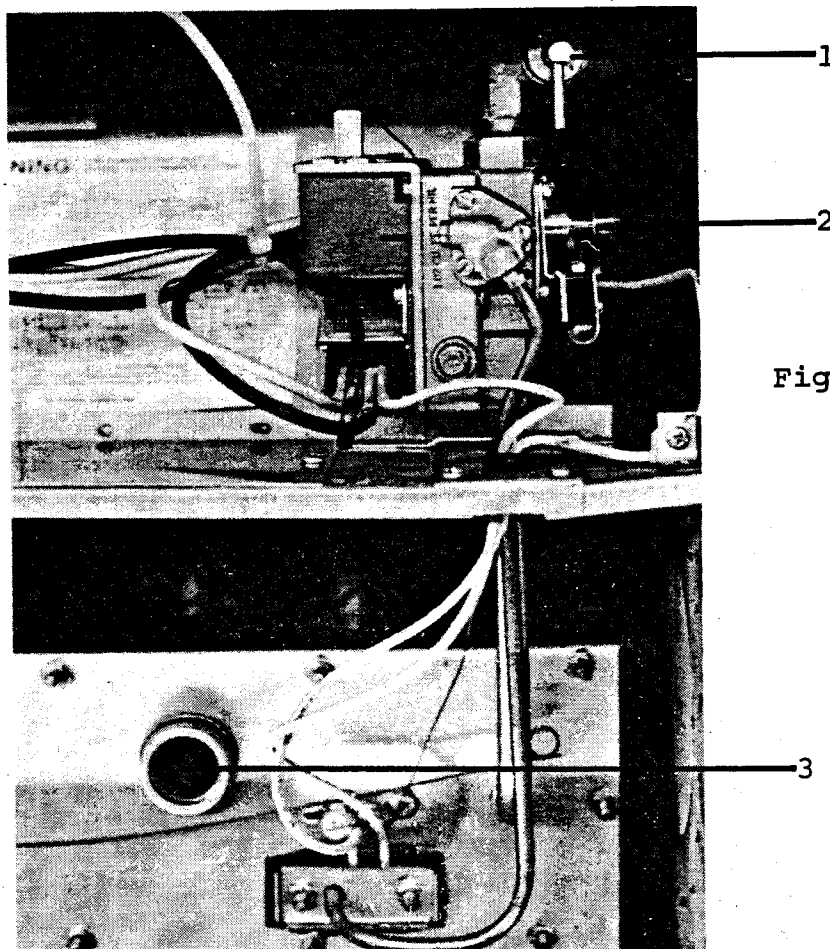

Figure 7-6. Forced Air Furnace
Lighting Instructions (See Figure 7-6).
1. Turn cutoff valve (1) to OFF. (See Figure 7-6).